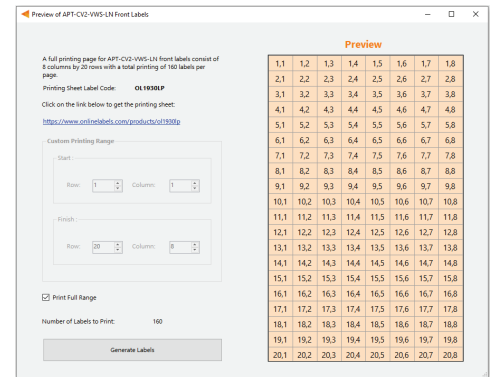

Figure 14: Label generation print preview window
- 4 Input the starting and finishing rows and columns that will fit on the back or front labels. The selected range is highlighted in blue (Figure 14).